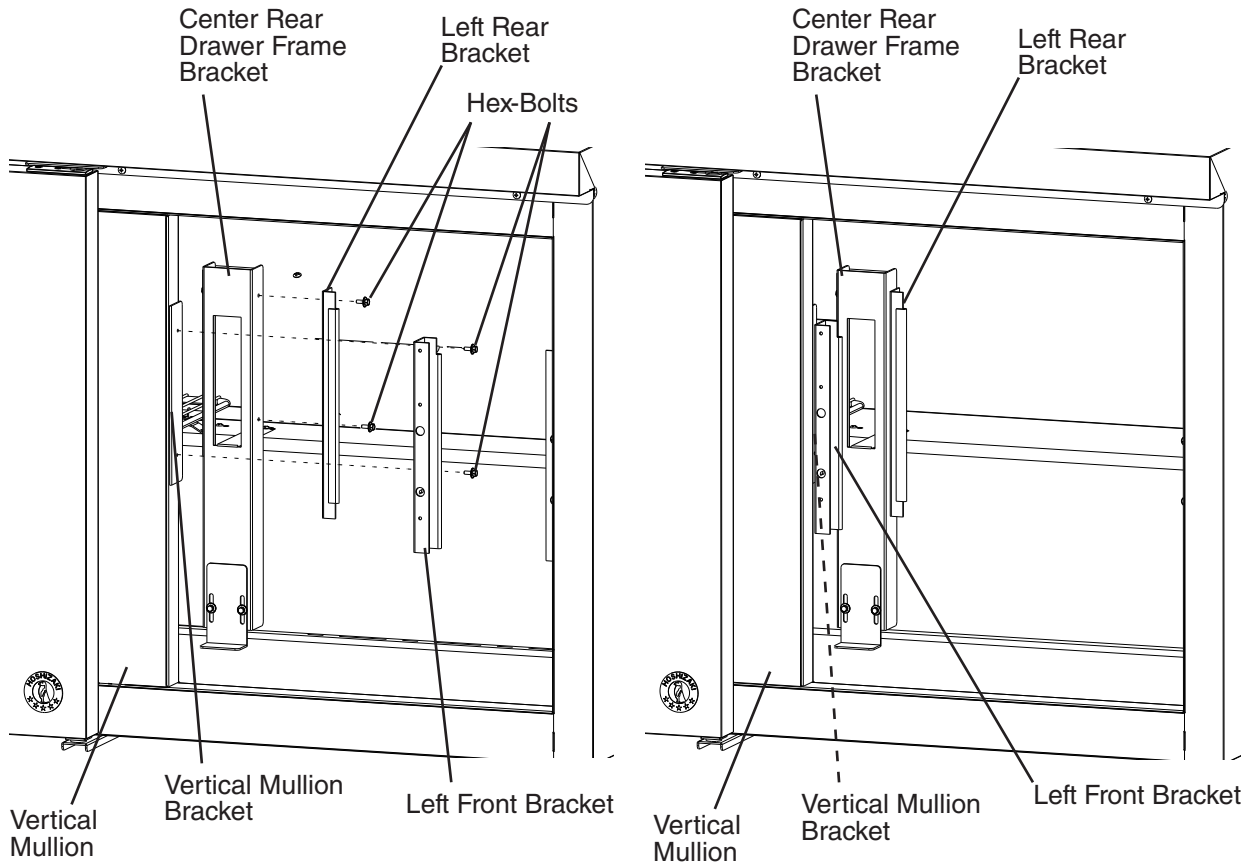

Fig. 36
- 20) Place the left rear bracket in place on the center rear drawer frame bracket with hex-bolts removed in step 4. Leave loose, do not tighten at this time. See Fig. 36.
- 21) Place the left front bracket in place on the vertical mullion bracket with the hex-bolts removed in step 4. See Fig. 36. Leave loose, do not tighten at this time.